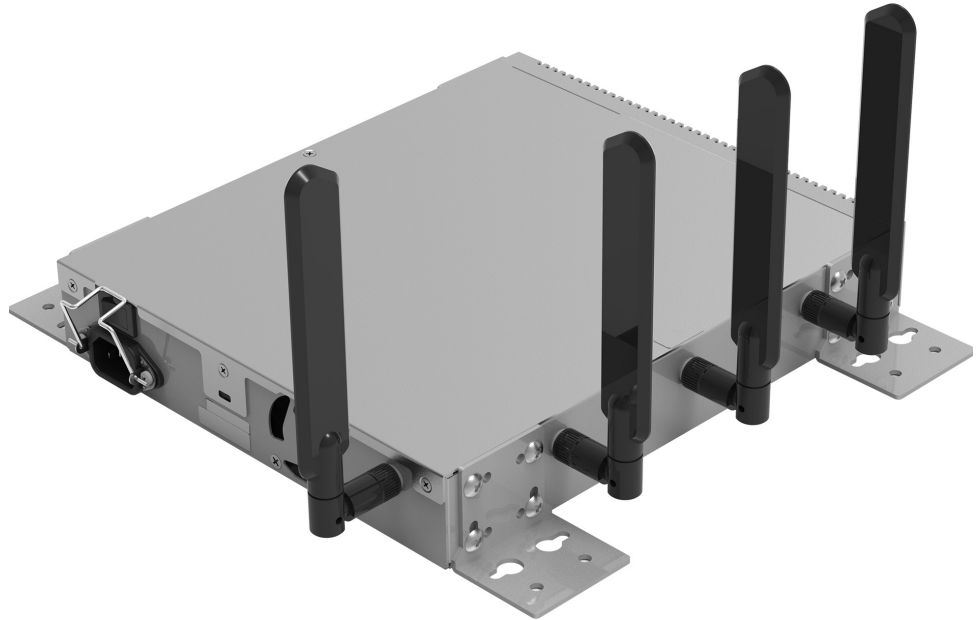
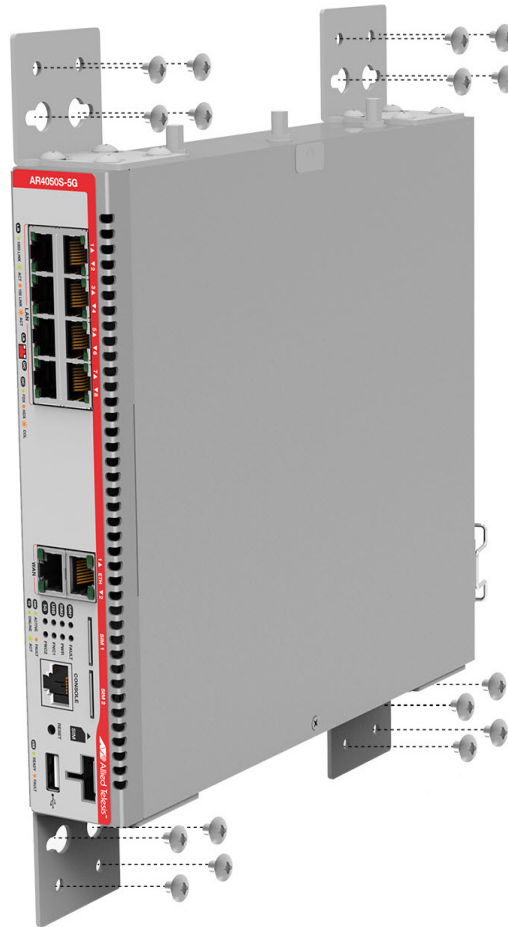

Figure 28. Brackets attached to the router
Figure 29. Securing the router to the wall
4. The router should be oriented such that the front faceplate is facing to the left or right and not facing upwards or downwards. See Figure 29.
5. Screw all the monopole antennas to their antenna connectors so you can check that they can face upward for clear unobstructed signals when fixed to the wall, See Figure 28. You can then unscrew them while fixing the router to the wall, See Figure 29.
6. While another person holds the router at the wall location, secure it to the wall using the 16 wall mounting screws. See Figure 29.